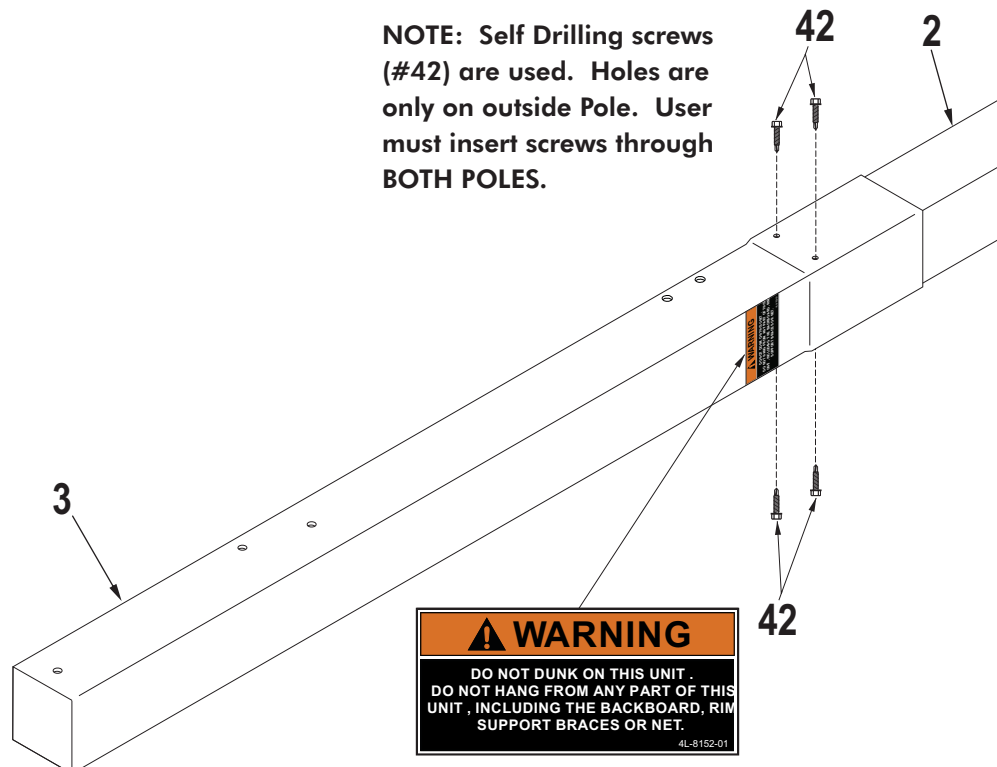

Figure 4
3. Once the Top pole is to the 6" Mark on the Warning Sticker, lay Pole Assembly on its side on two padded saw horses. Insert a (#42) Screw into each 3/16" hole in top Pole, two on each side of the Post Assembly. You will need someone to hold the Pole assembly while inserting screws. Screw must go through both Top and Bottom (Inner) Poles. Make sure to not strip screws once they are all they way through. See **Figure 4**.